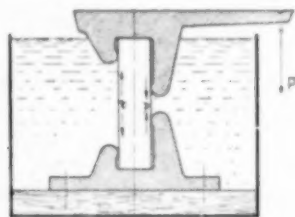

Fig. 1.
SOME tests on the effect of magnesium sulphate on cement mortars in a state of strain are described in a recent number of "Il Cemento". The bending strengths of specimens of ordinary Portland cement concrete subjected to compression and bending while immersed in a 5 per cent. solution of magnesium sulphate and in fresh water were determined, and it was shown that there is a considerable increase in resistance to chemical attack if the mortar is in compression. On the other hand, if the concrete is in tension, the disintegrating effect of sulphate solutions is accelerated. The bending tests were made after periods of 14 days, and after 1, 3, 4, 5 and 6 months, on 1:3 mortar specimens 1½ in. square and 6½ in. long. All specimens were cured in fresh water for 14 days and then immersed in the solution or in water. Some of the immersed specimens were not loaded and others were subjected to compression and bending in one plane by the apparatus shown in Fig. 1. The resistance to bending was determined for the unloaded specimens and for two conditions of the loaded specimens: (1) with the moment in the same sense as that when the specimen was immersed, and (2) with the moment in the opposite sense to that when immersed.